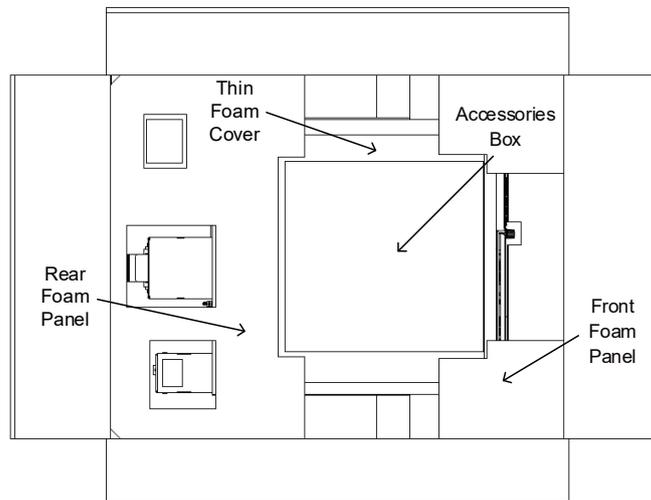

Figure 4-37: GSP Unpack – Accessories Box, Foam Panels and Foam Cover
4. Gently remove the accessories box, front foam panel, rear foam panel and thin foam cover as shown in Figure 4-37.